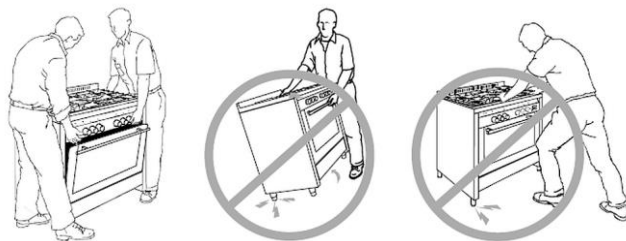

Fig. 3
2. Do not lift the appliance by gripping the oven handle, instead open the oven doors and lift the appliance by gripping the upper part of the oven chamber (Fig. 3).